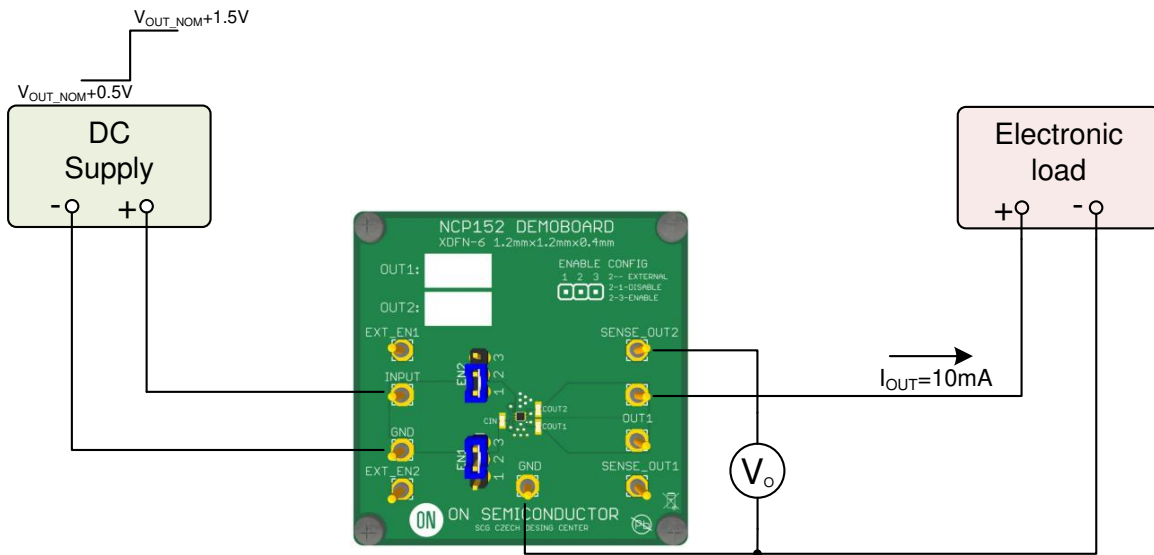

Figure 3: Test configuration for measurement REGLINE, Line Regulation
1. Connect circuit as shown on figure 3